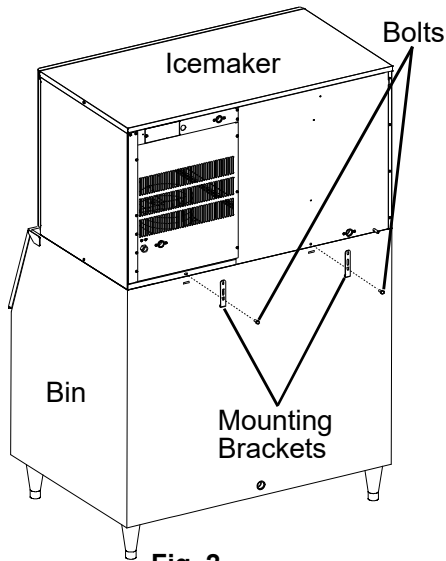

Fig. 2
- 4) Secure the icemaker to the storage bin using the 2 mounting brackets and the bolts provided. See Fig. 2